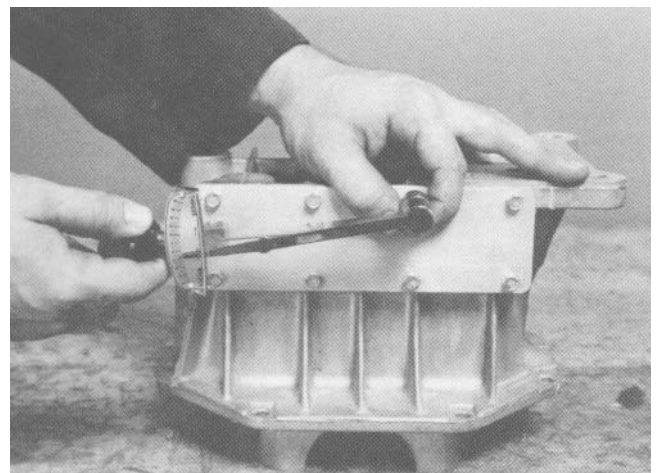

Figure 33
12. Install the spur gear cover. Use Permatex No. 2 or silicone sealant when installing the cover. Tighten the capscrews to a torque of 25-40 in.-lb. (3-4.5 Nm) (Fig. 33).